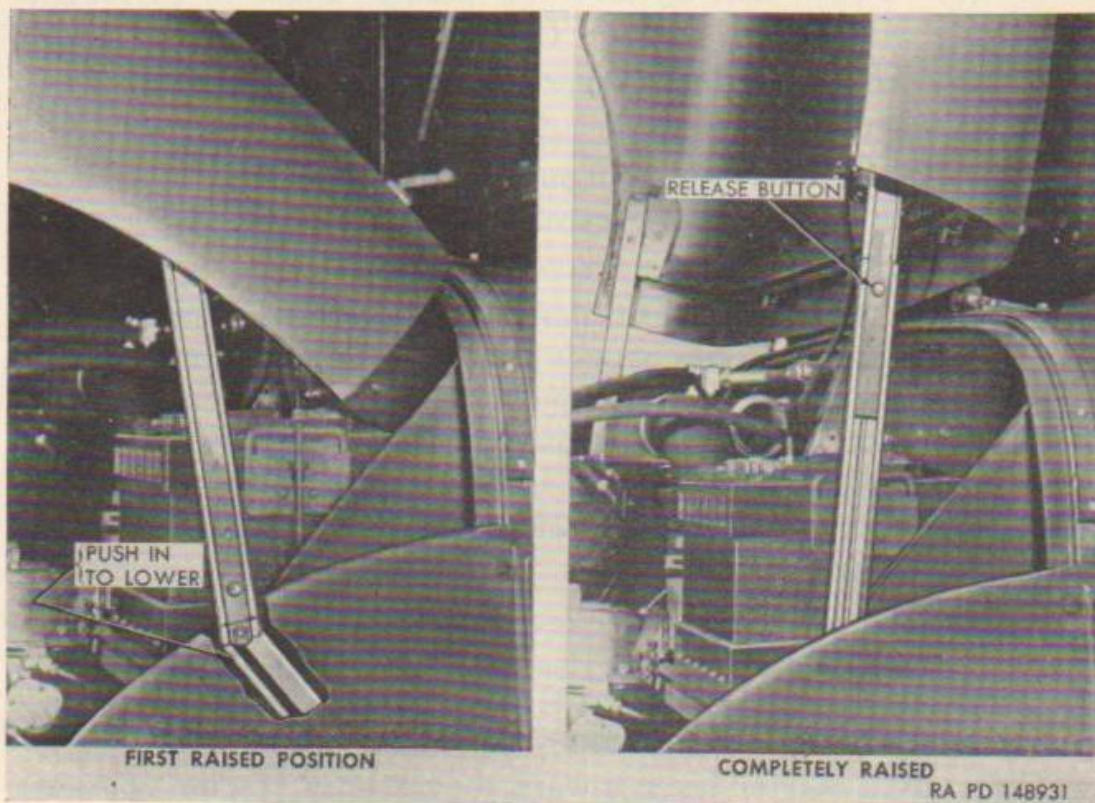

Figure 11. Positioning hood.
- (1) *Controls and instruments.* The driver must become familiar with the location and purpose of the controls and instruments as described in section II of this chapter.
- (2) *Preventive maintenance by driver or operator.* The before-operation, during-operation, at-the-halt, and after-operation procedures outlined in paragraph 67 must be accomplished to obtain efficient operation.
- (3) *Cab top and curtain positioning.* Procedures covering the positioning of cab top and curtains for driver protection, ventilation, or visibility are explained in paragraph 270.
- (4) *Windshield positioning.* Procedures covering the positioning of windshield are explained in paragraph 271.
- (5) *Seat adjustment and positioning.* Procedures covering the adjustment of driver's seat and the positioning of codriver's seat are explained in paragraph 273.
b. FIRST RAISED POSITION. Release the hood clasp on each side of hood. Grasp nose of hood and raise to first position (fig. 11). Telescoping side supports will automatically lock and hold hood in this position. Inspection and light maintenance of engine accessories can be accomplished with hood in first raised position.
c. SECOND RAISED POSITION. Press release button (fig. 11) on each side support; then raise hood to a vertical position. More extensive maintenance and inspection operations can be accomplished with hood in completely raised position.
d. LOWERING HOOD. To lower hood from completely raised position, press release button on each side support; then lower hood to first raised position. To lower hood from first raised position, raise hood slightly, then slightly push lower support (fig. 11) on each side, toward cab. Hood can then be lowered to closed position.